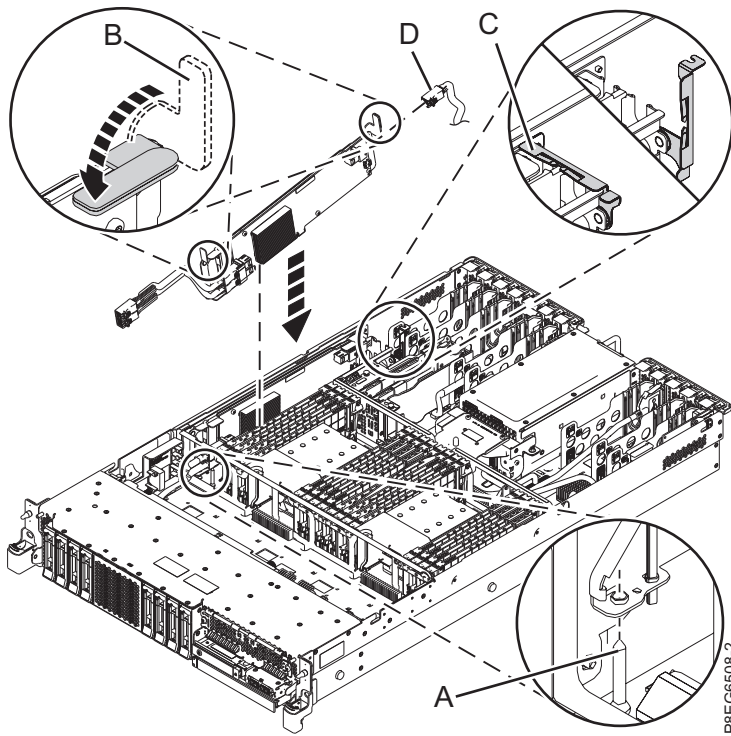

Figure 6. Replacing the PCIe3 x8 cache SAS RAID internal adapter 6 Gb
2. Reconnect the front SAS cable to the SAS RAID internal adapter connector P1 before you install the adapter. Push the connector in until the connector latch clicks. The end of the cable that has the manufacturing label plugs into the disk drive backplane. See Figure 6 on page 9.
4. Reconnect the rear SAS cable (D) to the SAS RAID internal adapter rear connector, as shown in Figure 6 on page 9.
5. Complete the installation of the SAS RAID internal adapter by fully seating it now. Ensure that the adapter is installed on locating pin (A). Press the top-center edge of the card down to firmly seat it into the system backplane connector.
6. Push the blue handles (B) in the direction that is shown. See Figure 6 on page 9.
7. Push the cable retention bracket (C) in the direction that is shown. See Figure 6.